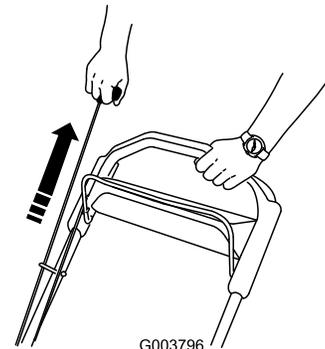

**Figure 14**
1. Push the ignition toggle switch to the On (“I”) position (Figure 14).